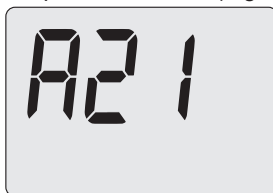

Figure 9.31
- Press button 13 and hold until the LCD display shows the code **A21**, indicating entry into "parameter A21" (Figure 9.31).
- Press 13 or 14 (Figure 9.21) to confirm the value entered and return to the list of parameters (Figure 9.31).